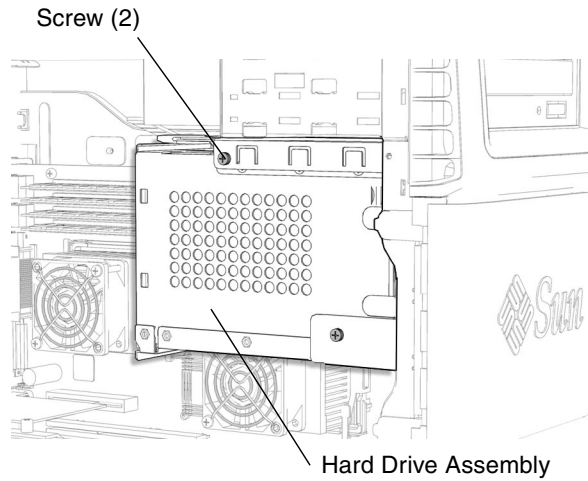

FIGURE 13-24 Removing the Two Screws for the Hard Drive Assembly
4. **Remove the two screws** (FIGURE 13-24).